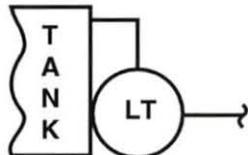

Figure 38. Level Sensing Element Symbol
2. Determine which type of level sensing element symbol is shown in figure 38.